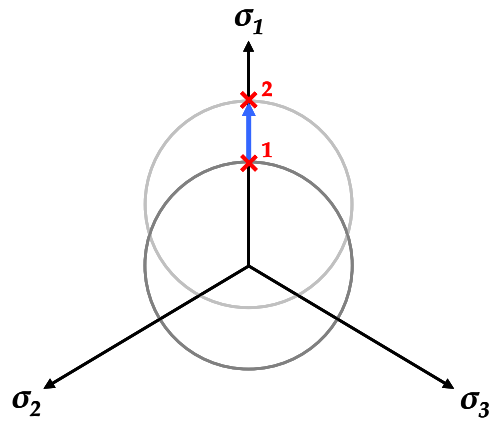

Fig. Q7
7. Fig. Q7 demonstrates which type of material behaviour?